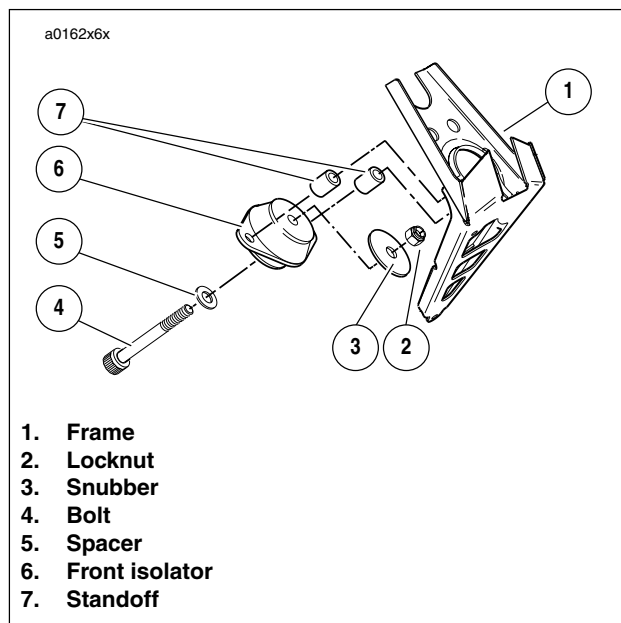

Figure 3-3. Front Isolator Mount
10. See Figure 3-3. Loosen and remove front isolator mount bolt, spacer, snubber and locknut.